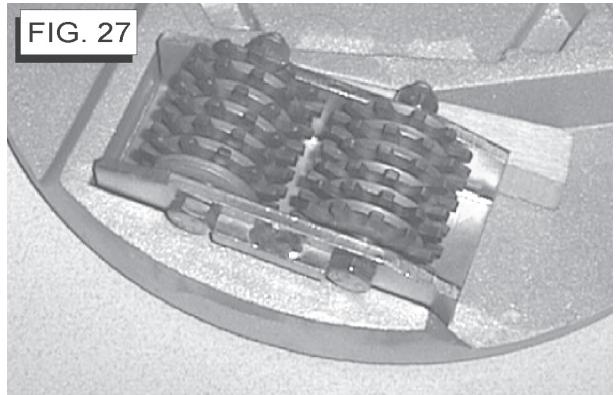

FIG. 27
- GG5. Disque scarificateur [FIG. 27]